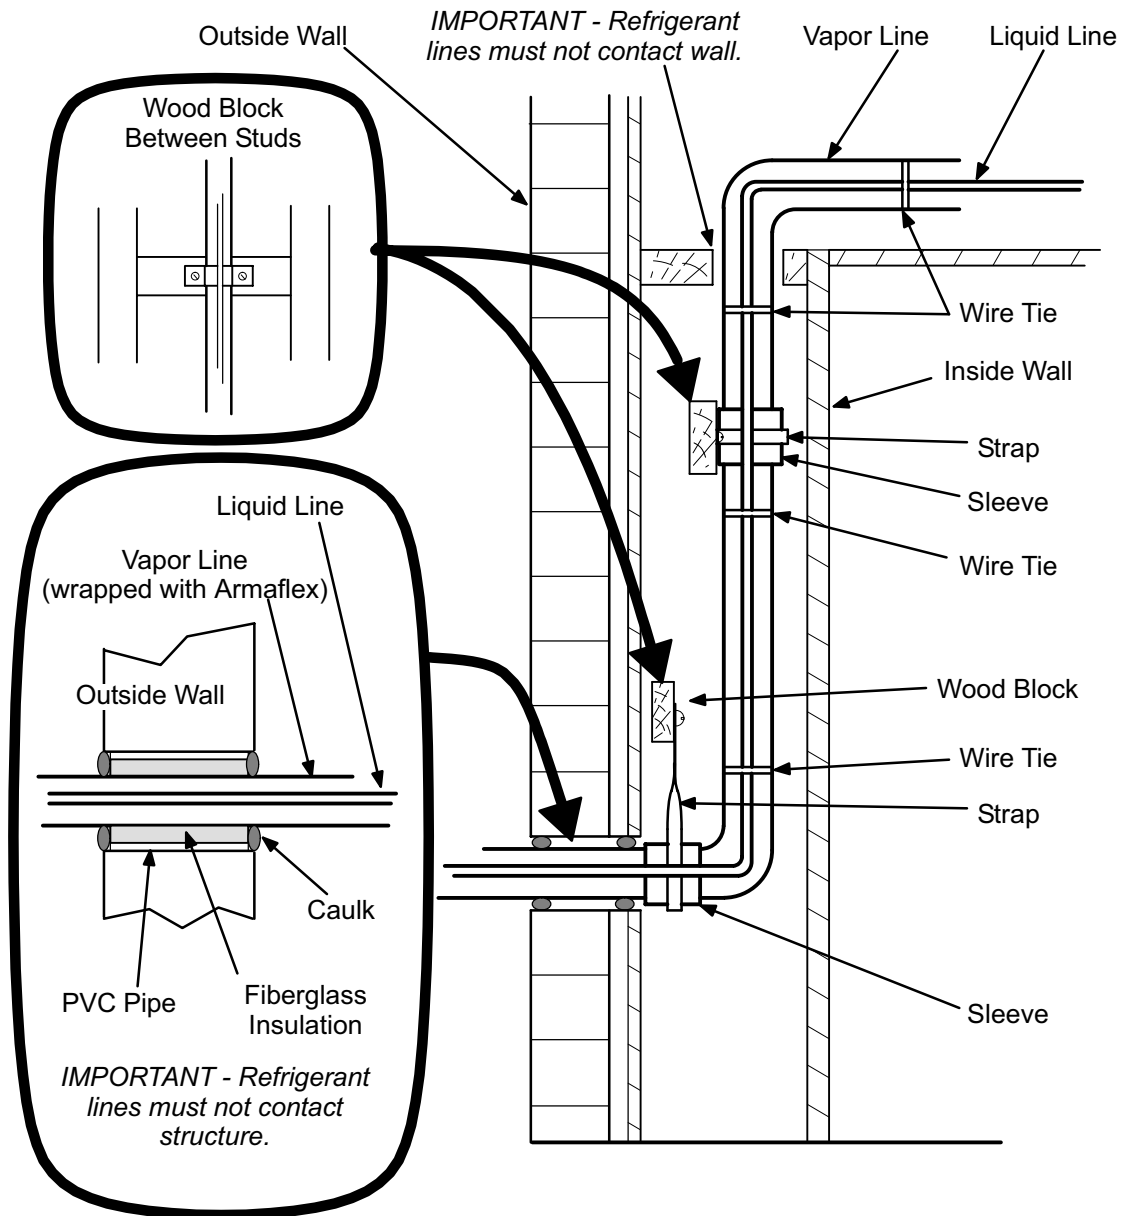
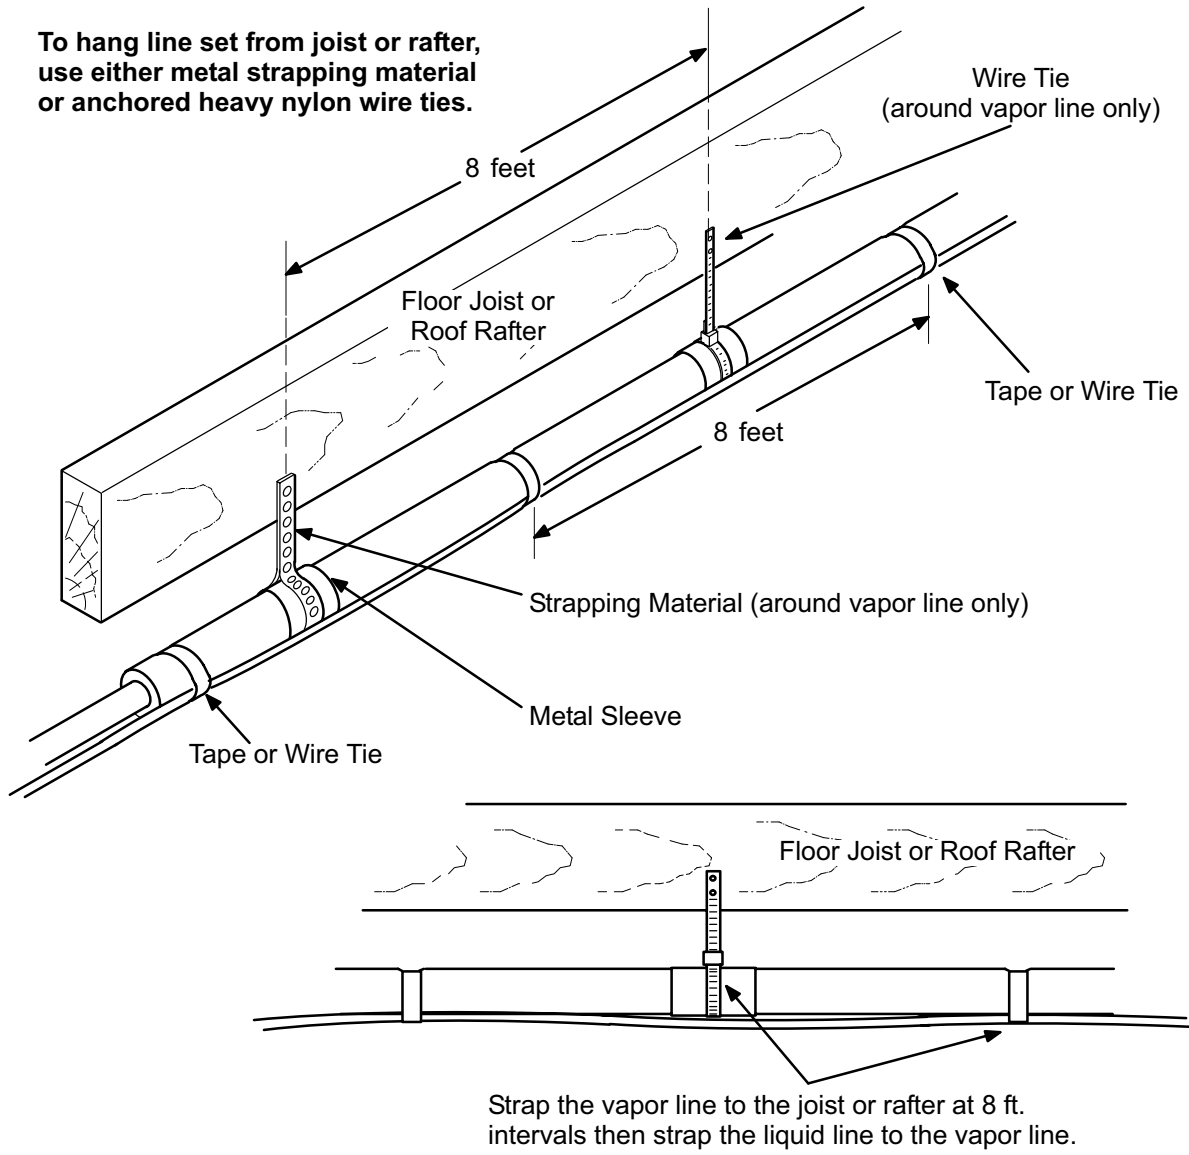
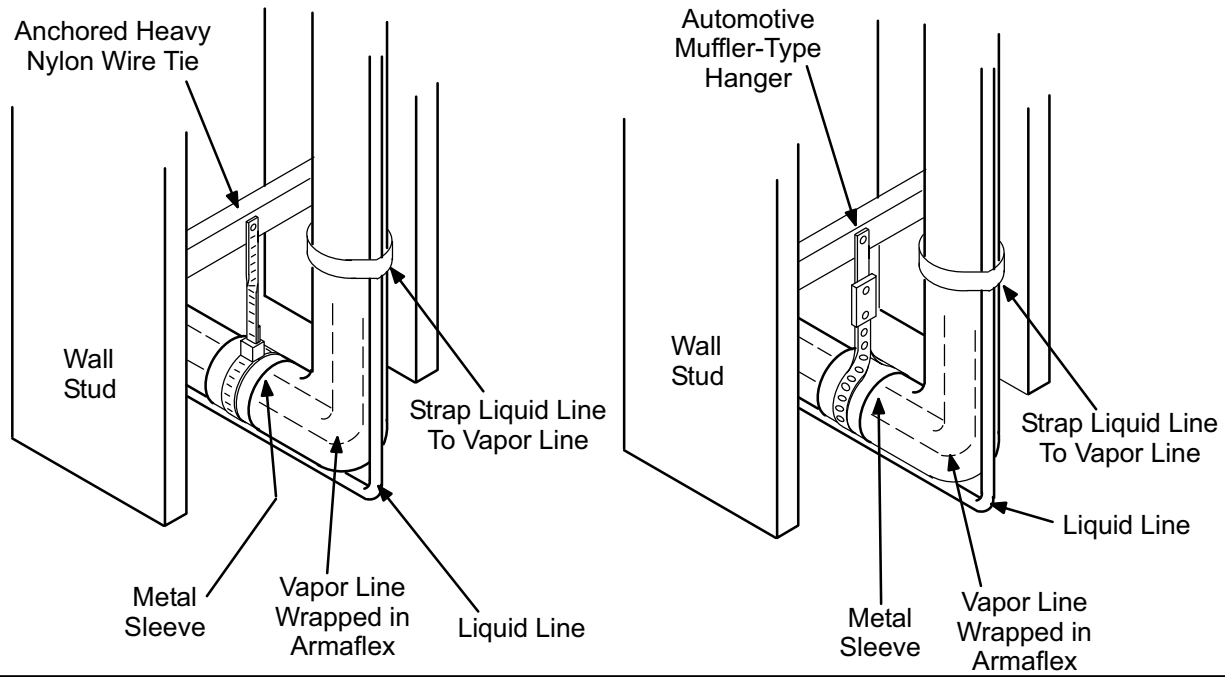
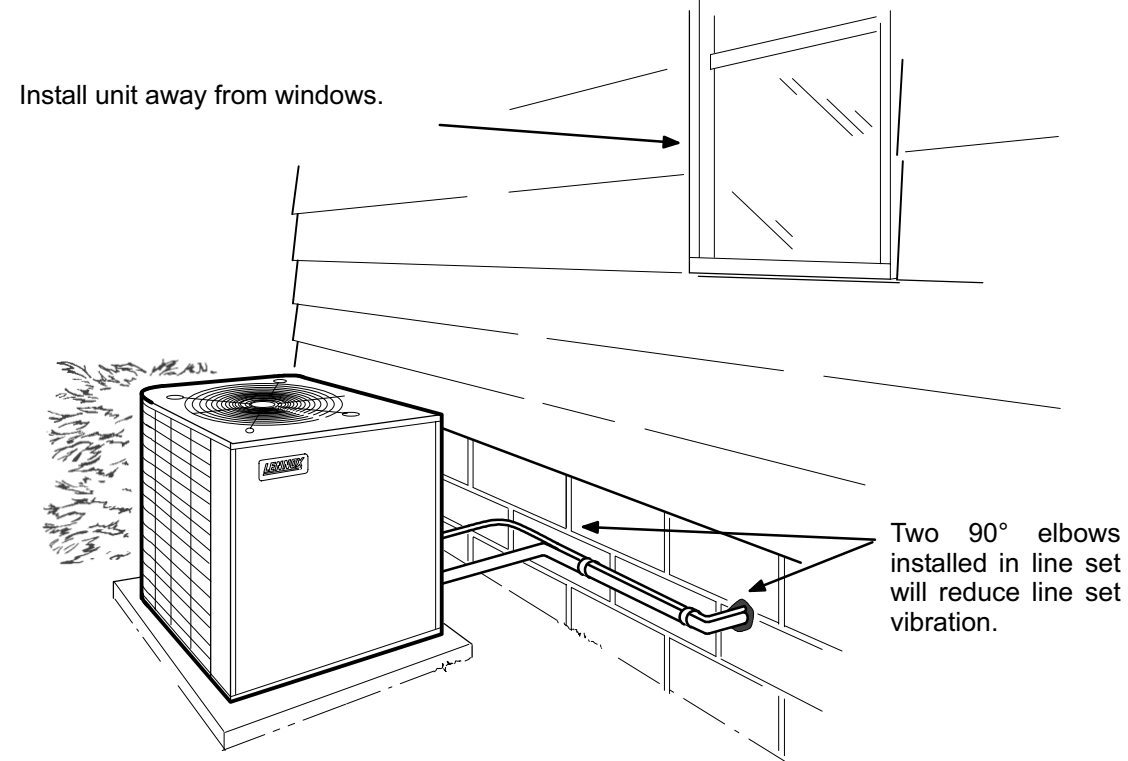

Figure 6
Figure 7
Figure 8
Figure 9
- 2- **Line Set Isolation** - The following illustrations demonstrate procedures which ensure proper refrigerant line set isolation. Figure 6 shows how to install line sets on vertical runs. Figure 7 shows how to install line sets on horizontal runs. Figure 8 shows how to make a transition from horizontal to vertical. Finally, figure 9 shows how to place the outdoor unit and line set.